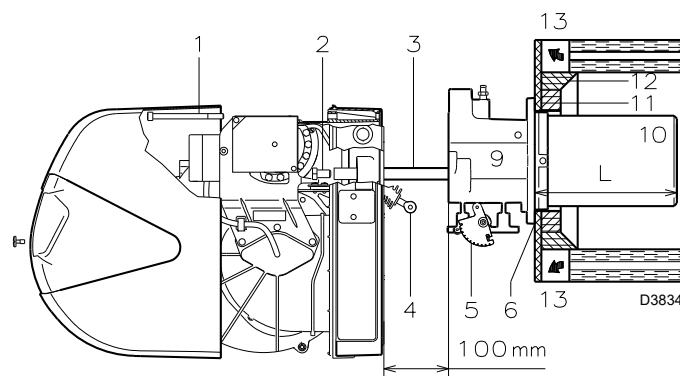
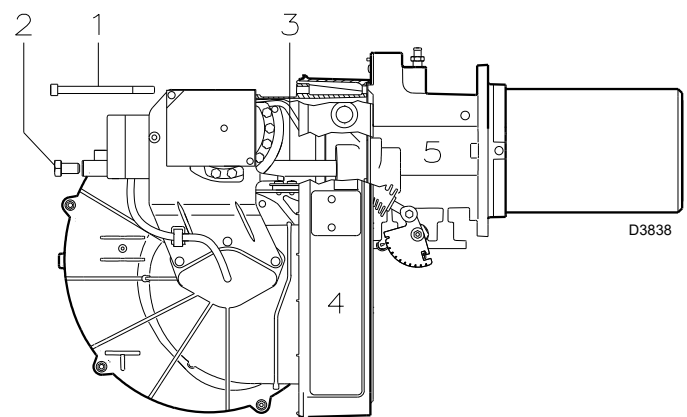

Fig. 11
Fig. 17
For boilers with a water-cooled front piece, a refractory lining 11)-12)(Fig. 11) is not necessary, unless expressly requested by the boiler manufacturer.
- Separate the combustion head from the rest of the burner (Fig. 11):
- Fix the flange 9)(Fig. 11) to the plate of the boiler interposing the insulating flange gasket 6)(Fig. 11) supplied with the unit.
- Once you have finished adjusting the head, reassemble the burner 4)(Fig. 17) on the guides 3)(Fig. 17) at about 100mm from the pipe coupling 5)(Fig. 17) - burner in the position shown in Fig. 11 - insert the cable of the probe and the cable of the electrode, then slide the burner as far as the pipe coupling, burner in the position shown in Fig. 17.
- Refit screws 2)(Fig. 17) on guides 3)(Fig. 17).
- Fix the burner to the pipe coupling with the screw 1)(Fig. 17).